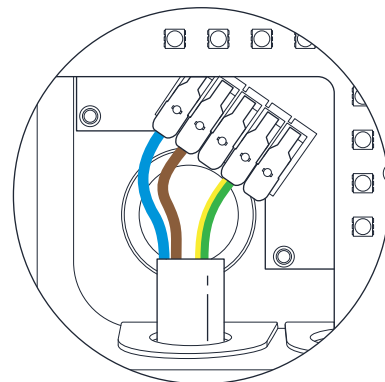

Fig. 8 - Wires succession of the power supply cable
16. Insert the conductors of the power supply cable into the input connectors mounted on PCB and close each lever of the connectors. Be sure that the wires are fully inserted into the connectors, no stripped parts of the wires or strand wires must be visible (electrical protection against direct contact). Incorrect connection can result in improper contact which may cause a fire hazard. **(Fig. 8)**